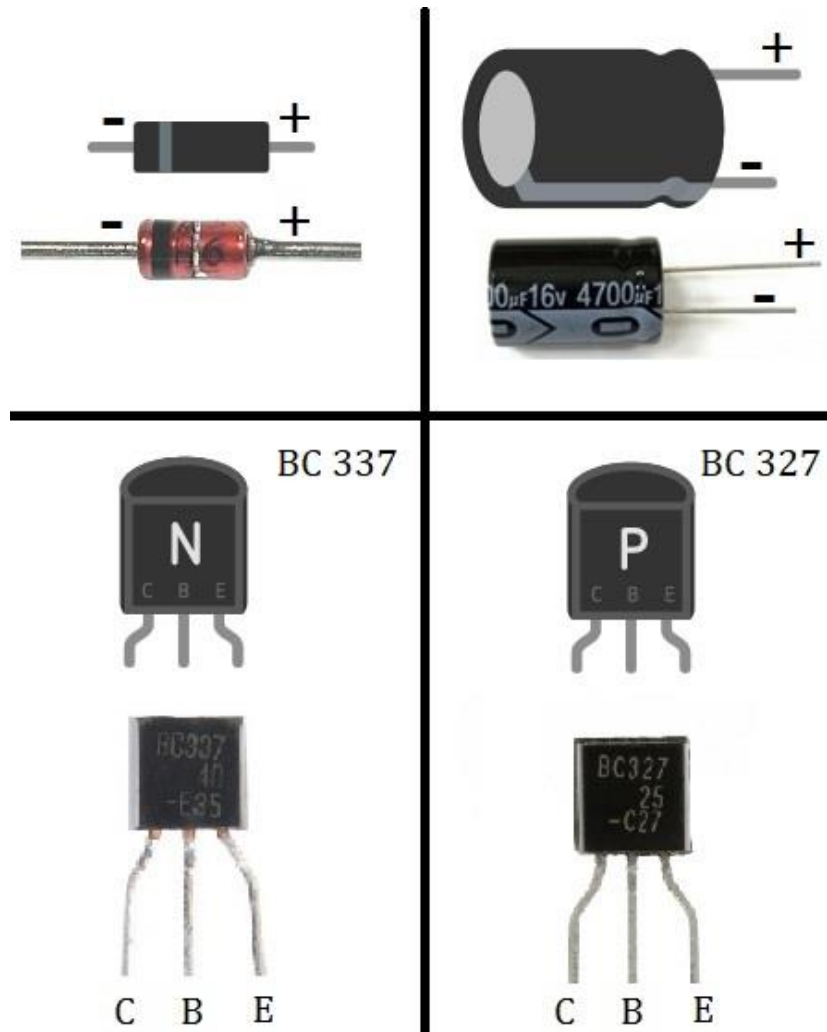

Figure 28: Terminals of diodes, capacitors, and transistors
- Be careful with the polarity of the various electronic components. For example see Fig. 28.